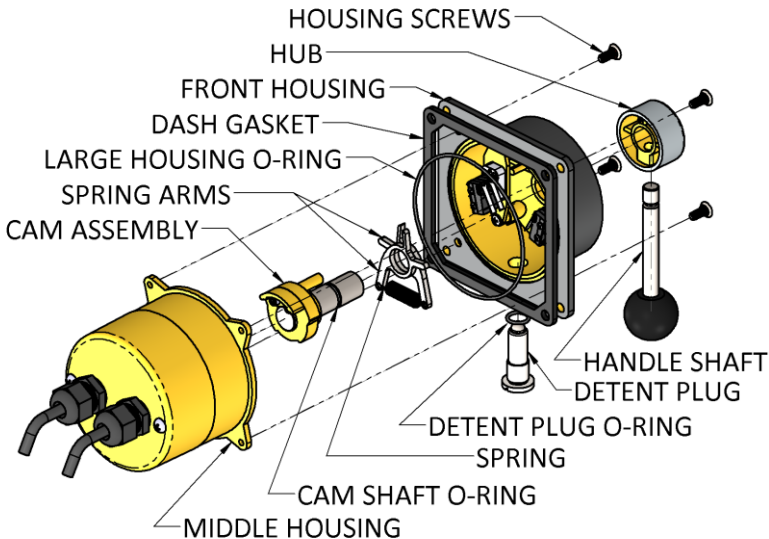

Figure 7: 7196 Parts Diagram for Maintenance
12. Reassemble unit as shown in Figure 7.